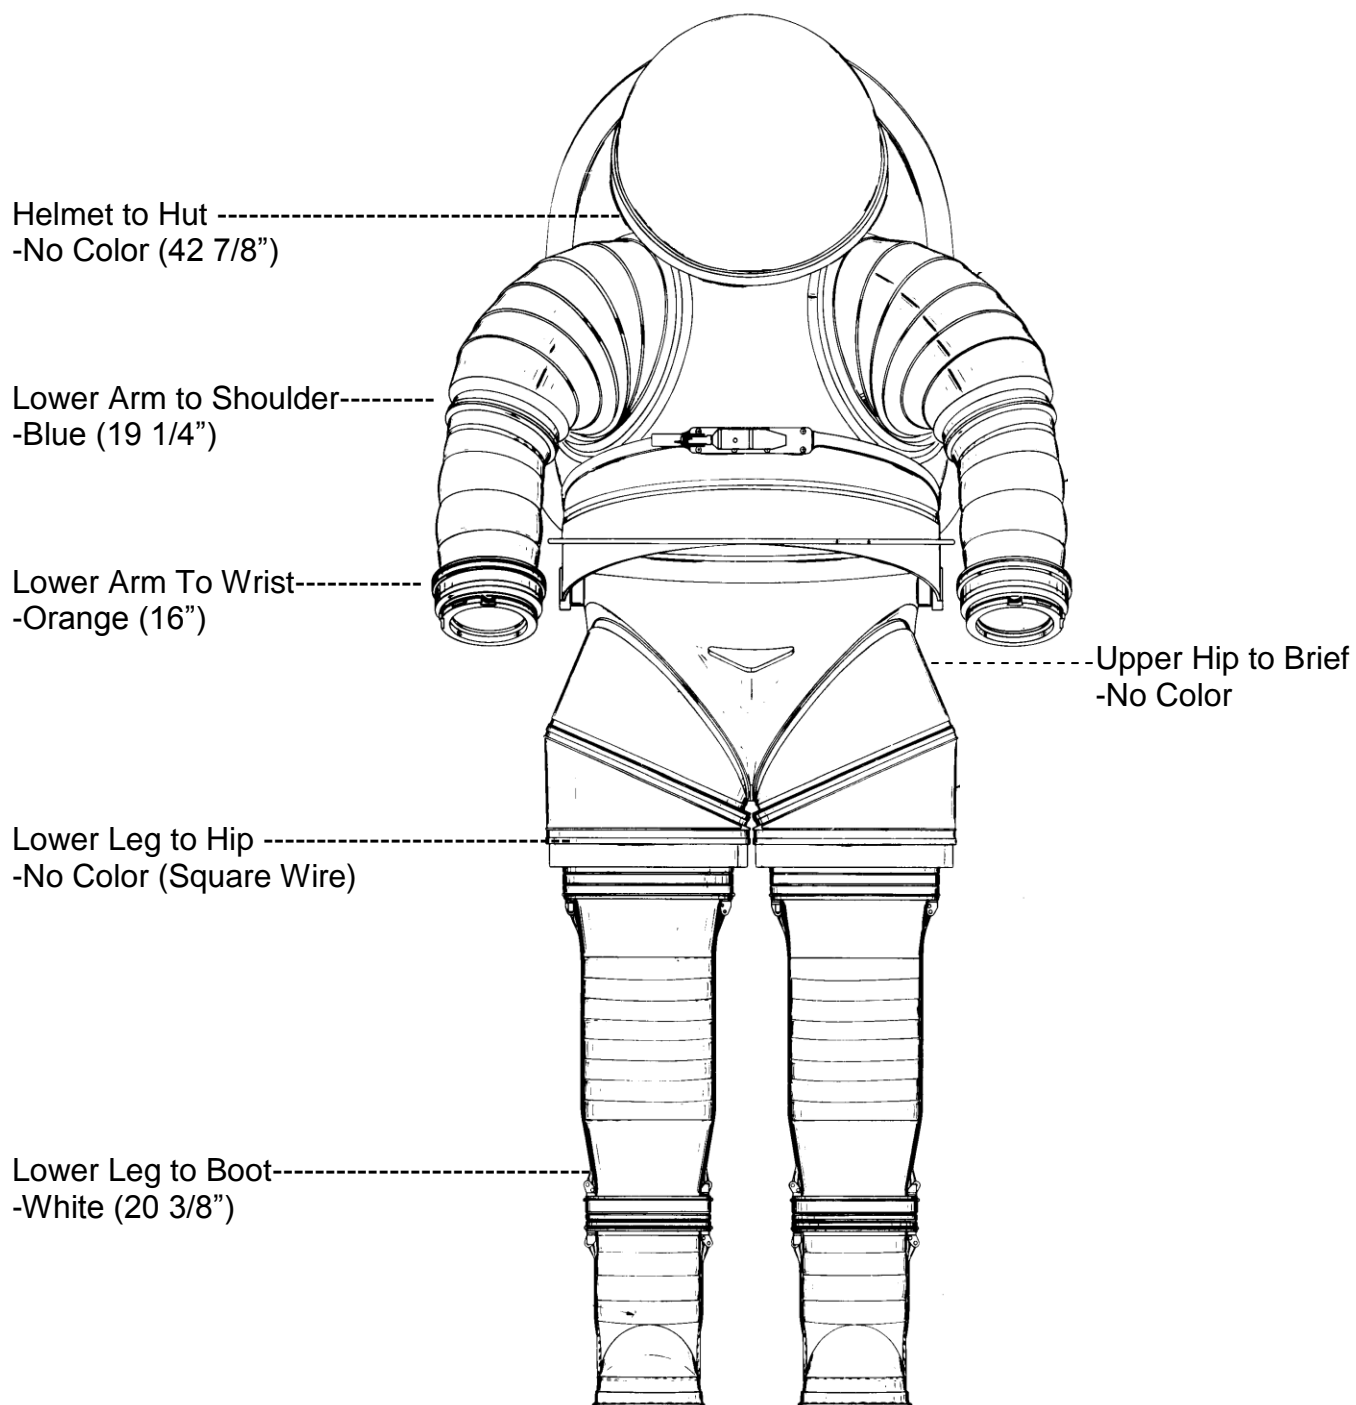

Figure 1: Ortman Wire Installation
8. _____ Ensure that correct Ortman wires are installed as shown on Figure 1.
- d. _____ Correct Ortman wires properly installed. (Refer to Figure 1)